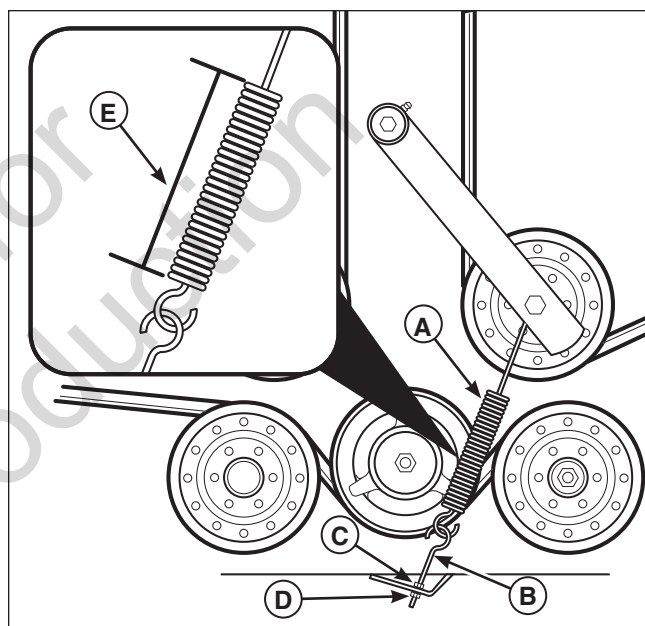

Figure 49. Mower Belt Idler Spring Length
1. Loosen the jam nut (C, Figure 49) from the back of the anchor eyebolt (B).
2. Turn the adjustment nut (D) until the measurement as designated in the chart, is achieved.